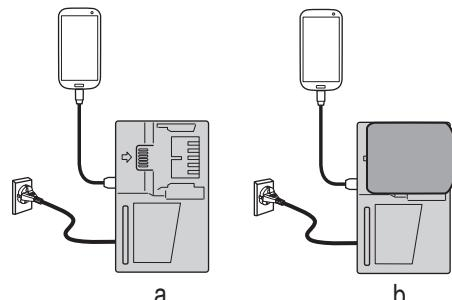

Fig. 12
- Charging a USB device from a electrical outlet. (**Fig. 12-a**)
- Charging a USB device and battery from a electrical outlet. (**Fig. 12-b**)